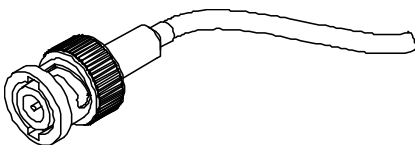

Figure L-3 The 1CH, BNC eddy current probe connector
- The second type is a BNC connector (see Figure L-3 on page 175) used in certain single-coil eddy current technology probes.